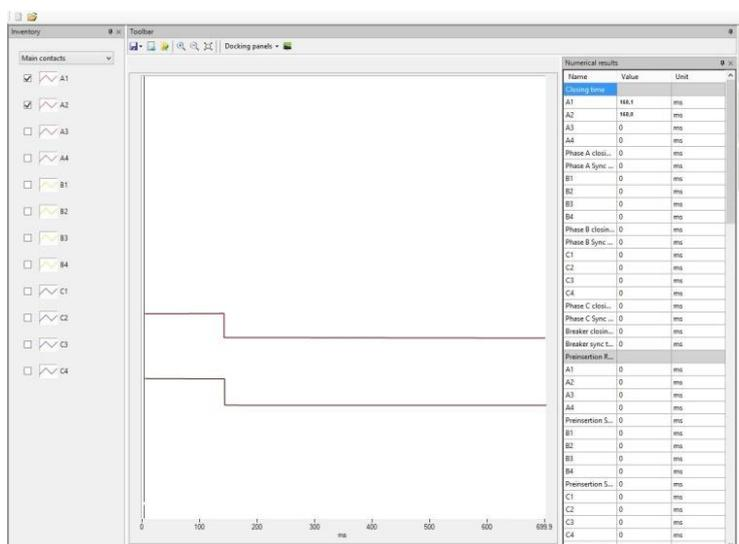

Figure 6-4: Coil control test – DV Win test results
- IV. When the test is finished, *CAT Viewer* window should appear with test results for active signals, as shown in the Figure 6-4. In the numerical results table, Closing time should be 160 ms.